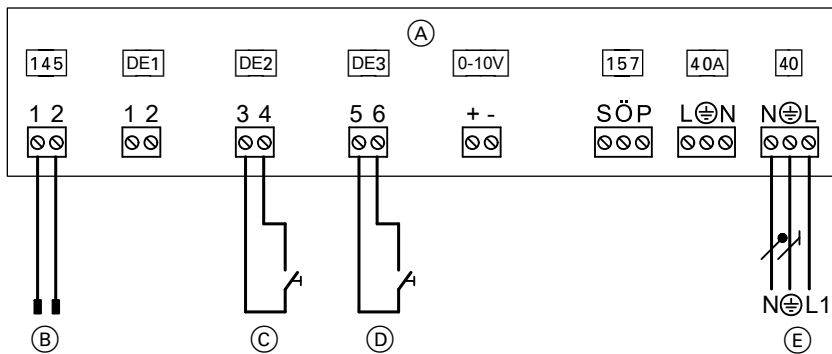

Fig. 24
- To EA1 extension as shown in Fig. 24